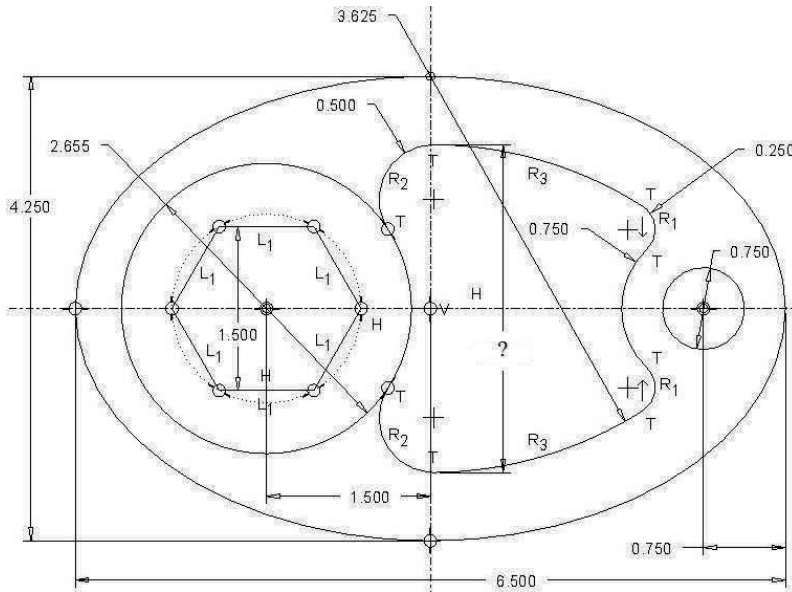

Figure 3-72 Problem 3
**3.3** Draw the front view of "special\_cam" (Figure 3-72). **Design Intent**—The cam must be a symmetrical ellipse (draw centerlines). The hexagonal shaped hole must be 1.500 inches from the geometric center of the cam. The cutout and small hole are for mass reduction only. Mating arcs are tangent. What is the maximum height of the circular arc cutout? The 3.625 radius arcs are centered at the top and bottom of the ellipse.